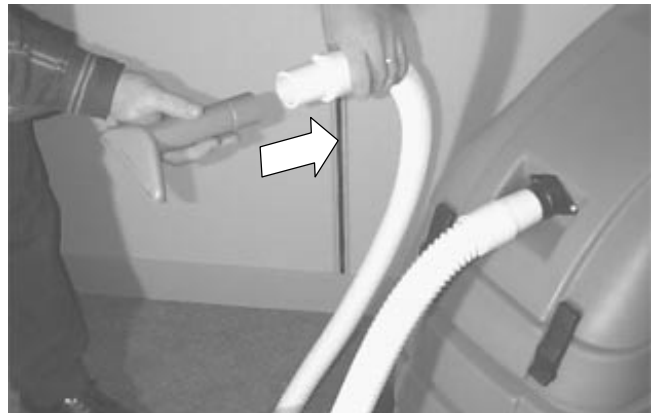

FIG. 7
2. Connect desired accessory tools to vacuum hose (*Figure 7*).